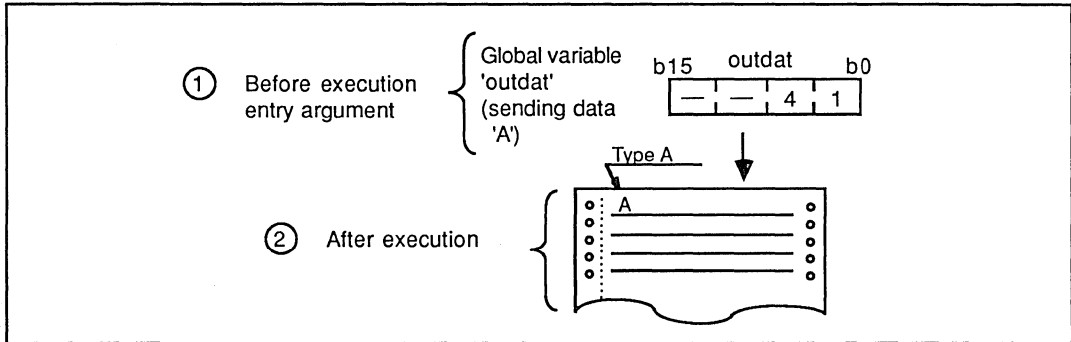

Figure 4-14. Program Module 'expout' Execution Example
**Example:** Figure 4-14 shows an example of program module 'expout' execution. If entry argument is as shown in ①, the console typewriter prints it as shown in ②.